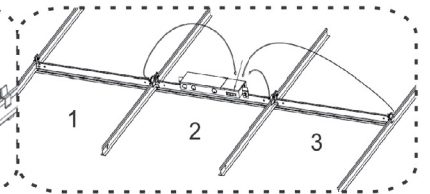

Figure8
Please note one driver can only support max 3 units. (Figure8)
9. Cover the plasterboard to finish installation and ensure there is no opening at ceiling. (Figure8 and Figure9)